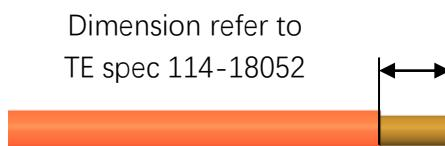

Figure 3-A
TAB5.8X0.8 公端子参考图 3-A
*MQS 0.63X0.63 male terminal refer to Figure 3-B: